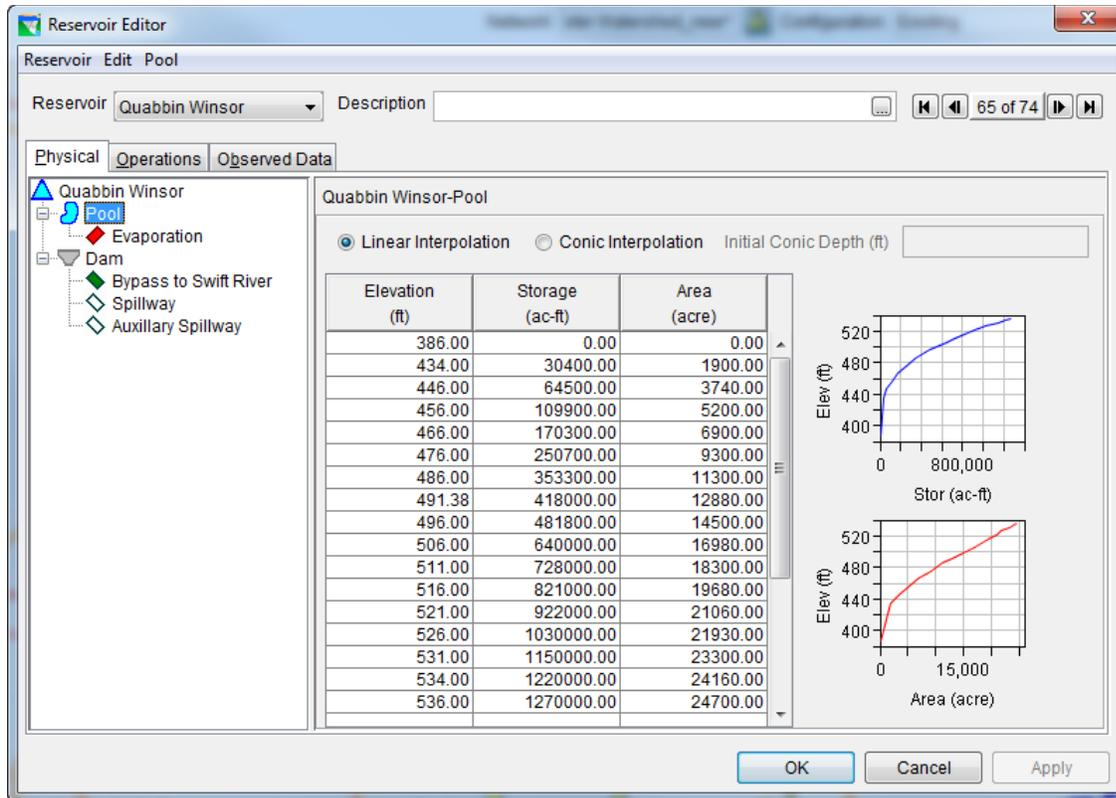

Figure 3: Reservoir Editor: Physical Tab -- Pool
The physical characteristics of the reservoir are separated between the Pool and the Dam in the HEC-ResSim model. The elevation-storage-area defines the pool as shown in Figure 379. The dam consists of three types of outlets: (1) controlled Bypass to Swift River, (2) uncontrolled spillway, (3) uncontrolled Auxillary Spillway as shown in Figure 4.